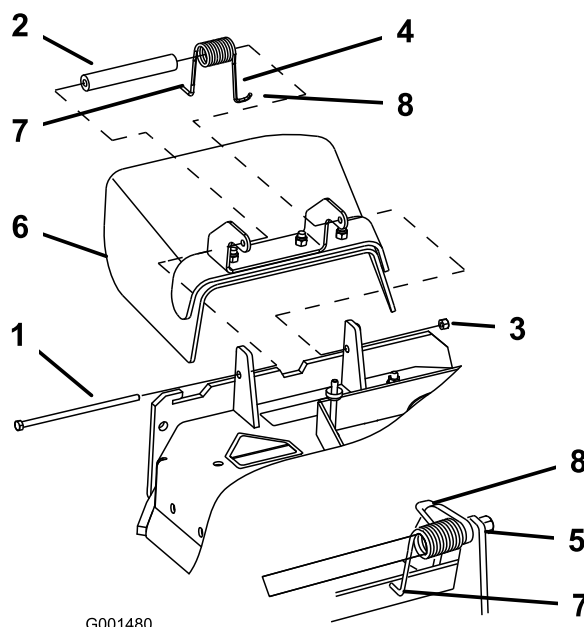

Figure 45
1. Remove the locknut, bolt, spring and spacer holding the deflector to the pivot brackets (Figure 45). Remove damaged or worn grass deflector.
Note: Make sure the L end of spring is installed behind deck edge before installing the bolt as shown in Figure 45.
3. Install bolt and nut. Place the J hook end of spring around grass deflector (Figure 45).